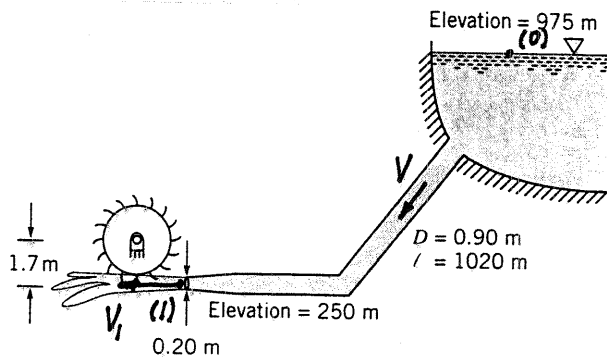

FIGURE P12.51
12.51 Water for a Pelton wheel turbine flows from the headwater and through the penstock as shown in Fig. P12.51. The effective friction factor for the penstock, control valves, and the like is 0.032 and the diameter of the jet is 0.20 m. Determine the maximum power output.